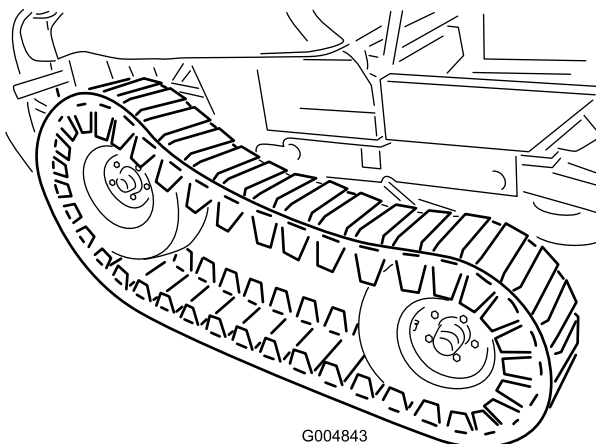

Figure 122
36. Adjust the floor jack to a suitable height to install the front tire. With a helper, lift the front of the track enough to carefully install the front tires (Figure 122).